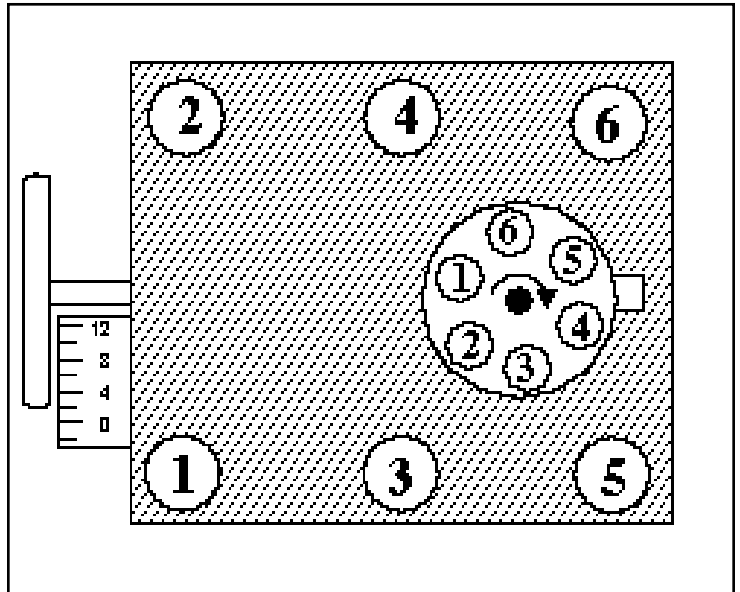

Figure 4
1. Turn the engine over in direction of rotation until the No. 1 intake valve closes and continue until the pointer on the front cover is approximately five degrees before top dead center (BTDC). **See Figure 4 for firing order.**